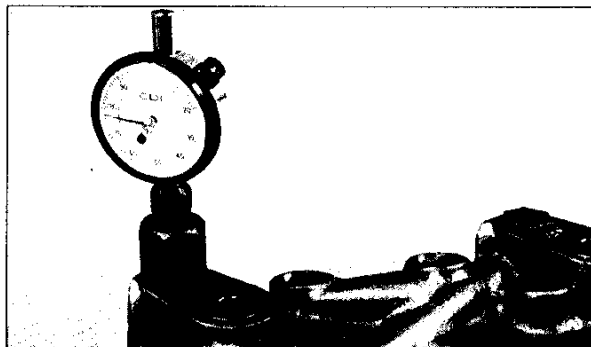

FIG. 1.5.9
2. Install the dial indicator assembly into the trigger valve bore (see Fig. 1.5.9). Hand tighten, metal to metal contact only.